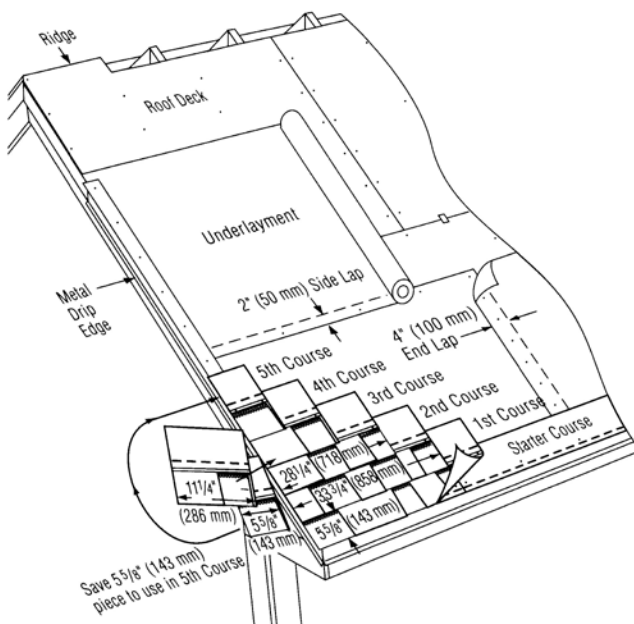

Figure 15-10: Applying the first 5 courses on a standard slope.
**1ST COURSE:** Apply a full shingle at the lower left corner of the roof. Make the lower edge and left edge lie flush with the edges of the starter course (*Figure 15-10*).
1. Cut  $5\frac{5}{8}$ " off the left end of the first shingle and save this piece for later use. Apply the  $33\frac{3}{4}$ " long piece over and above the first-course shingle. Leave the bottom  $5\frac{5}{8}$ " tab portion of the first-course shingle exposed (*Figure 15-10*).